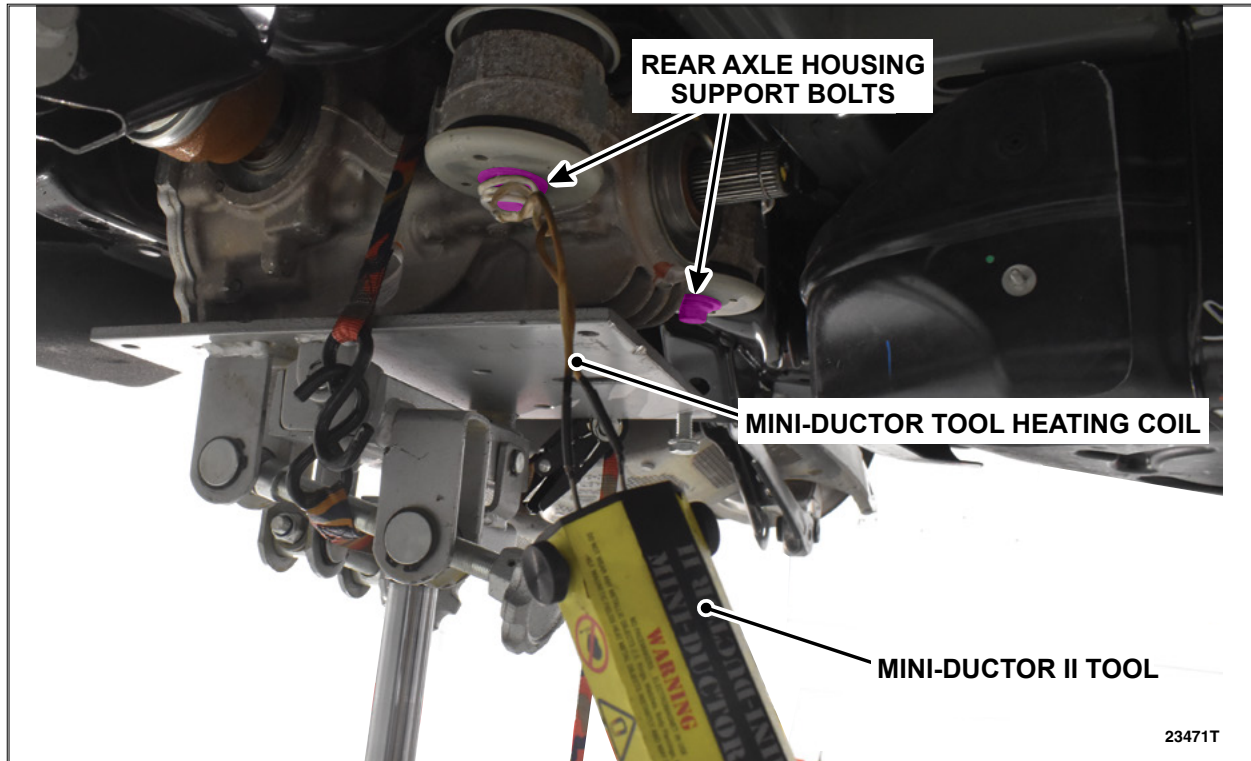
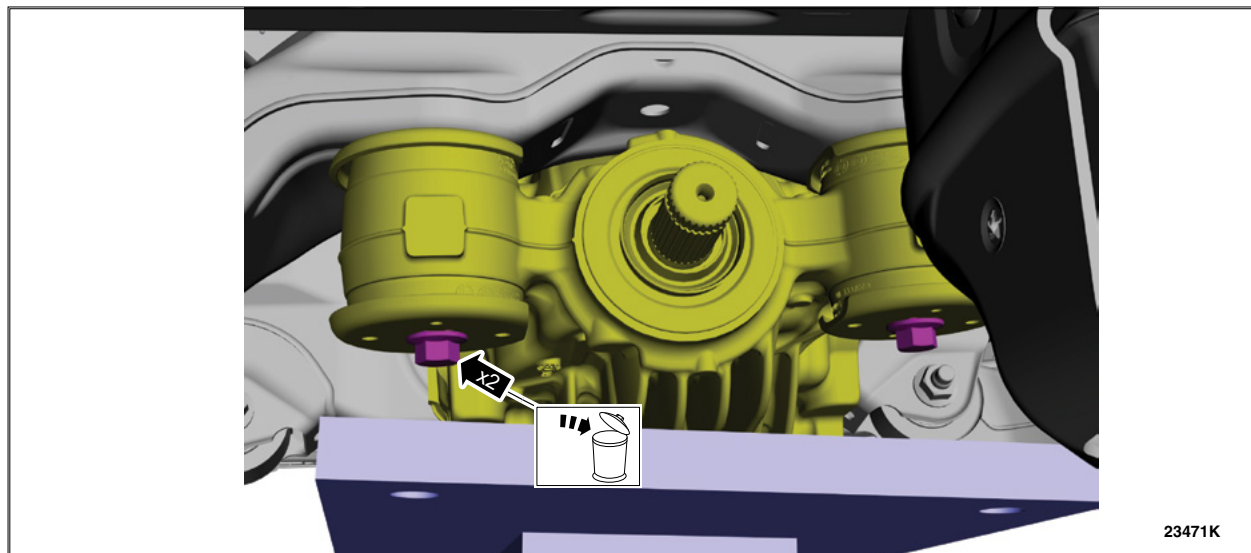

FIGURE 10
FIGURE 11
17. Using a flameless heat tool, such as the Rotunda Mini-Ductor II (part number IDIDM-700) or equivalent, heat up both front rear axle housing support bolts, as shown in Figure 10. Using a breaker bar, loosen both bolts. Then remove and discard both rear axle housing support bolts. See Figure 11.